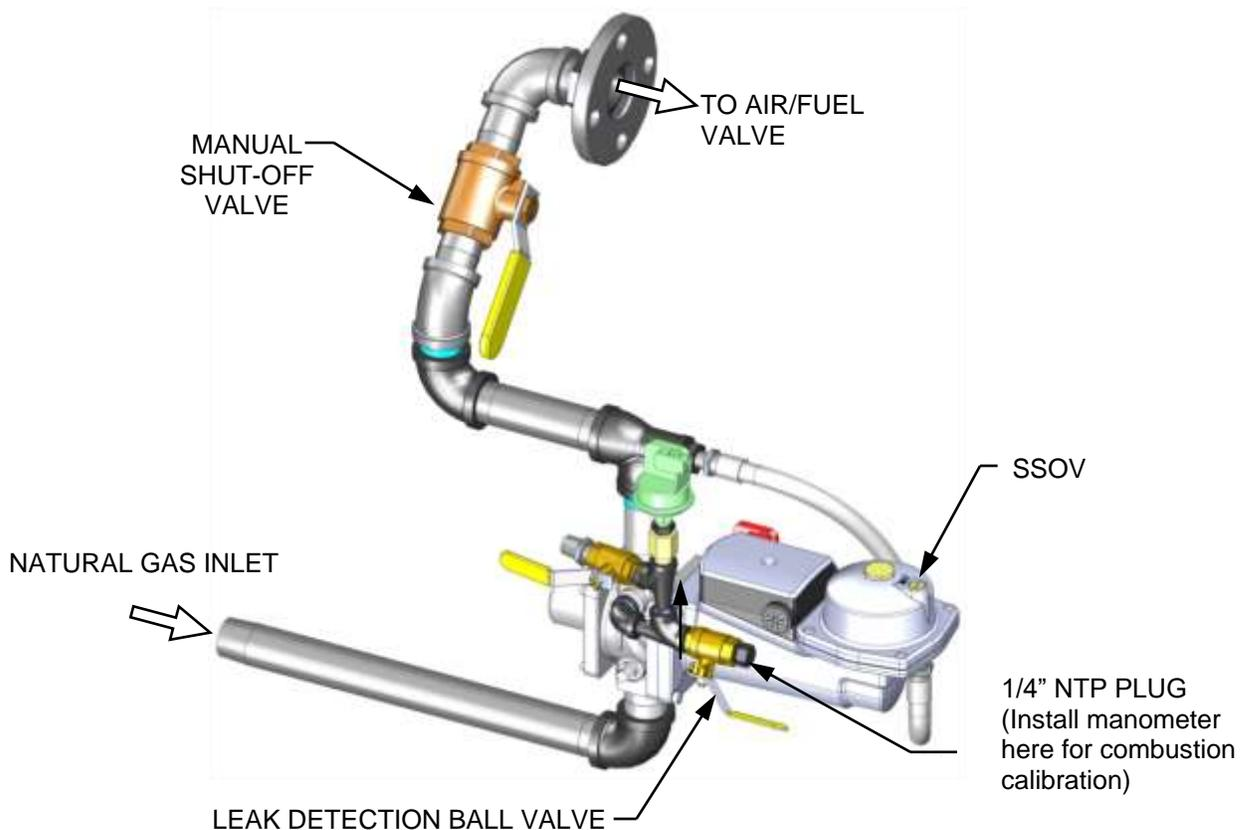

Figure 4-1a: BMK 750 & 1000 1/4 Inch Gas Plug Location (P/N 22140-1 shown)
The gas supply manometer is installed at the upstream and/or downstream location shown in Figure 4-1a through 4-1d.
3. Remove the 1/4" NPT plug from the leak detection ball valve on the downstream side of the SSOV as shown in Figure 4-1a – 4-1d.